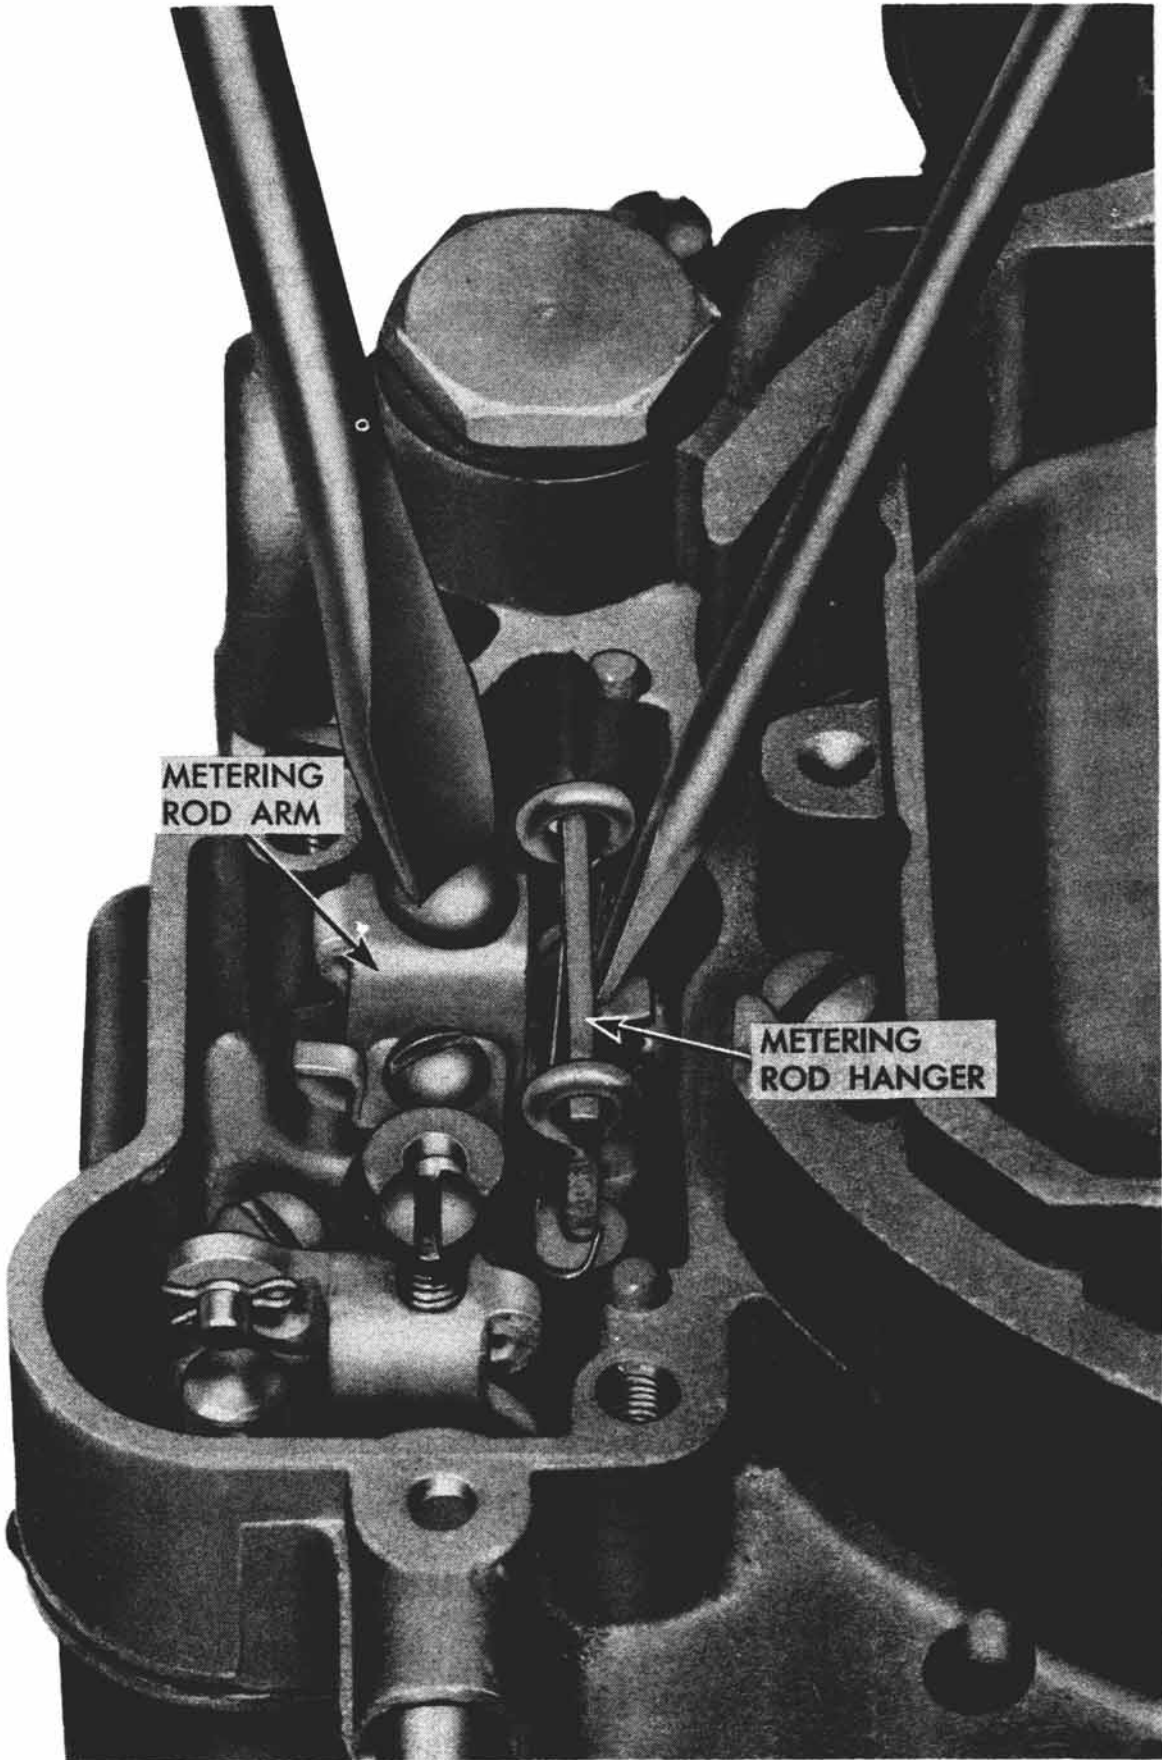

Fig. 16-C Metering Rod Adjustment
- b. Press down metering rod arm until rods bottom (Fig. 16-C).
- c. While holding metering rods down and with throttle valves seated, rotate metering rod arm (Fig. 16-C) upward until arm lightly contacts hanger. Lock arm in this position by tightening set screw.